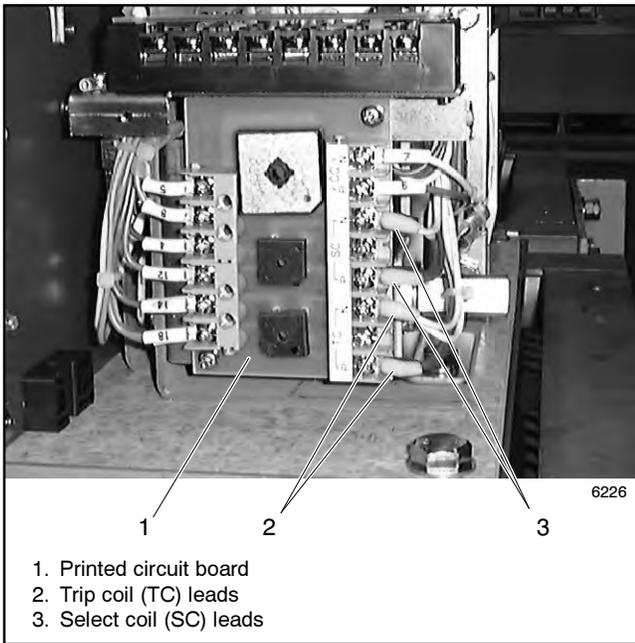
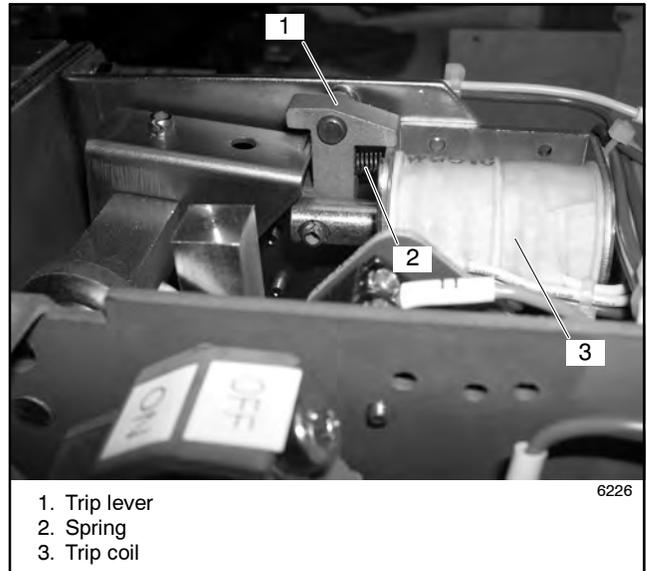
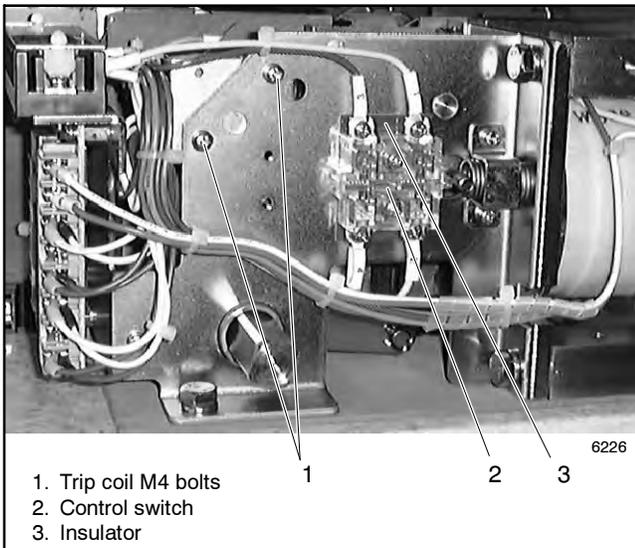

Figure 7-32 Circuit Board Connections
Figure 7-34 Trip Coil
Figure 7-33 Trip Coil Replacement, 600 Amp Models
1. Note the connections and disconnect the trip coil leads from the printed circuit board and the control switch. See Figure 7-32 and Figure 7-33.
2. Remove two M4 bolts and replace the trip coil. Retain the small spring for the trip coil lever. See Figure 7-33 and Figure 7-34.
1. Note the connections and disconnect the select coil leads from the printed circuit board and the control switch. See Figure 7-32 and Figure 7-33.
1. Note the connections and disconnect all leads to the circuit board. See Figure 7-32.